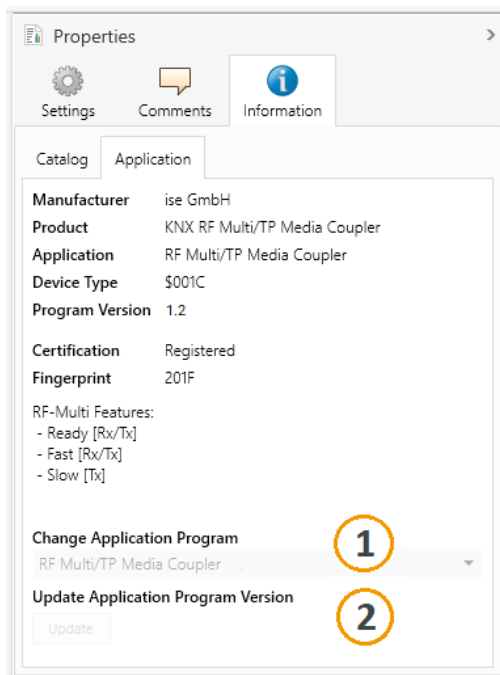

Figure 6: Updating the application program
5. Select the <<Update>> button under the item <<Update application program version>> (see figure 6, Pos. 2)
If you change the value under <<Change application program>> (see figure 6, Pos. 1), user-defined settings will be lost.